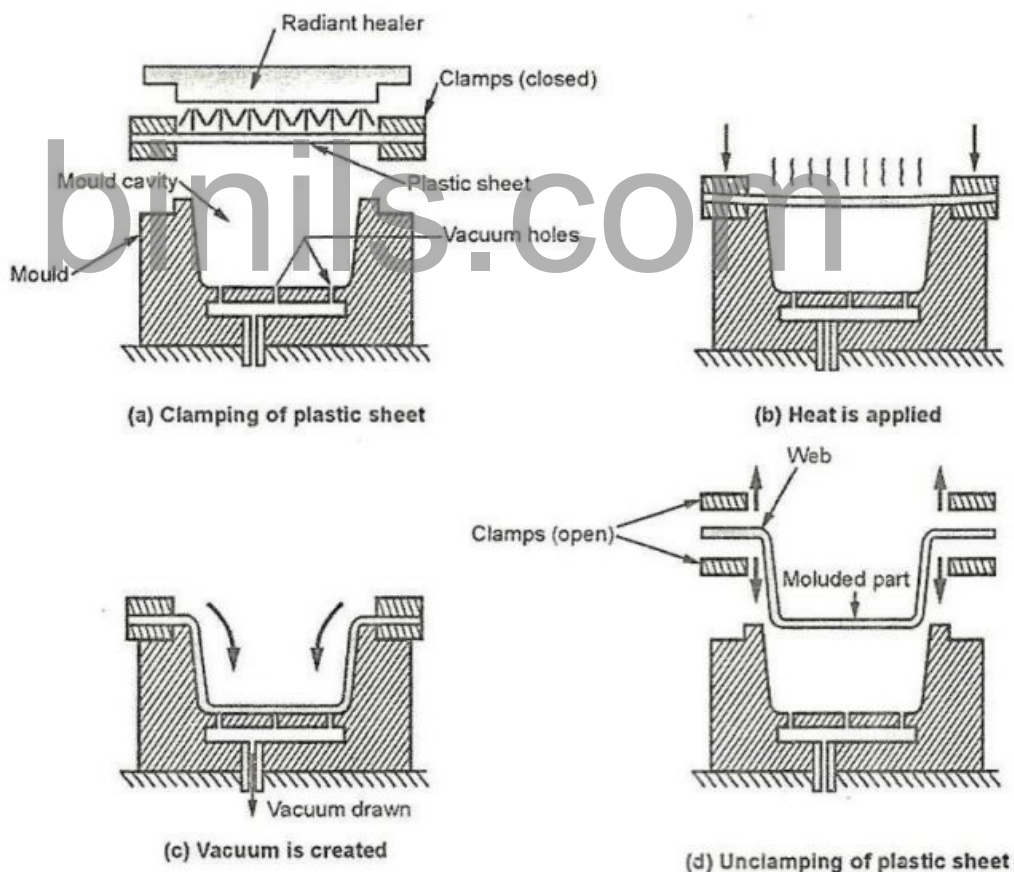

Figure 5.8 Vacuum forming
- It employs a clamp to grip the plastic sheet having thickness of about 0.125 to 3.2 mm, around its circumference. Refer Figure 5.8 (a).
- Figure 5.8 (b) shows that instead of vacuum sometimes hot air is used to drive the plastic sheet into the female mould cavity.